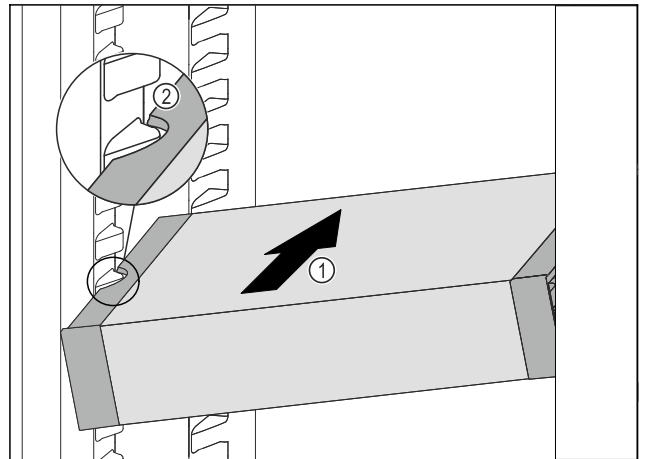

Fig. 75
- Insert the VarioSafe into the fridge section at an angle Fig. 75 (1) until the recesses in the side Fig. 75 (2) of the VarioSafe are at the level of the support rib in the fridge section.